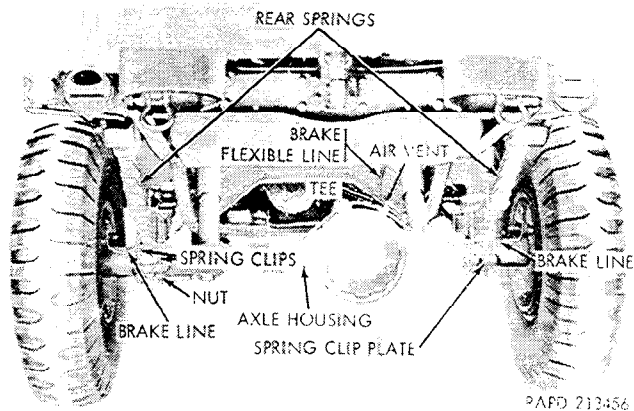

Figure 2-148. Removal or installation of rear axle.
a. *Replace Air Vent.* The air vent (fig. 2-148) for the rear axle serves the same purpose as the vent in the front axle (para 2-119). The rear axle vent secures the brake line tee on the axle housing and is removed by unscrewing the vent nut. At each inspection, service the vent as described in paragraph 2-118 a (2). When installing the vent, position the tee on the axle housing and screw the vent through the tee into the housing. Tighten the vent nut.
ahead of the rear axle. Raise the frame sufficiently to relieve the load on the rear springs (fig. 2-148).
(1) Install the brake flexible line (fig. 2-148) in the tee on the differential carrier and tighten.
(2) Install the two wheels and tires (para 2-142 b).
(3) With the frame raised ((2) above), position the axle under the rear springs, with the spring center bolts in the recesses of the seats in the axle housing.
(4) Position a spring clip U bolt seat over each rear spring, fitting the opening over the spring center bolt.
(5) Swing the spring clip U bolt plates, with attached shock absorbers, toward the rear and fit each plate on the axle housing directly below the spring. Hold the parts in position and install the two spring clips U bolt for each rear spring.